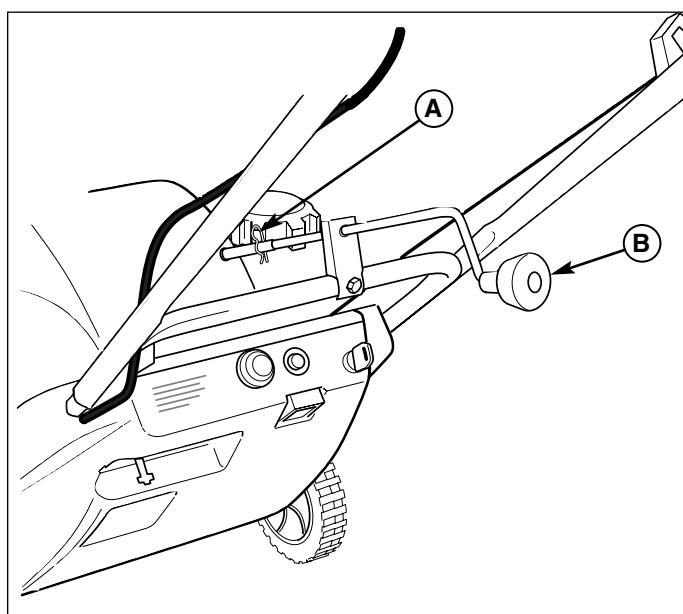

Figure 4. Discharge Chute Control Adjustment
B. Chute Direction Control - The chute direction control (B, Figures 4 & 5) allows the discharge chute to be rotated to throw snow in the desired direction. Snow may be thrown at any angle from straight left to straight forward, to straight right.
C. Chute Deflector - Controls the distance snow is thrown. Tilting the chute deflector (C, Figure 4) UP provides a higher stream and greater distance, while tilting the deflector DOWN provides a lower stream and less distance.
3. Check the auger control (see A, Figure 4) for proper operation. If adjustment is required, see the service section (pages 13-15) for procedures.
4. Check the chute direction control (B, Figure 4) for proper operation. The discharge chute should rotate freely in both directions. See the service section for adjustment procedures and troubleshooting.
5. Check the chute deflector (C, Figure 4) for proper operation. The deflector should pivot freely up and down. See the service section for procedures.